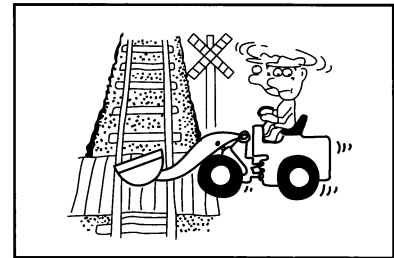

Figure1-48
- Please obey with traffic rules when driving the loader on a public road, don't incur traffic jam, and get through the crossing quickly. (Figure 1-48)